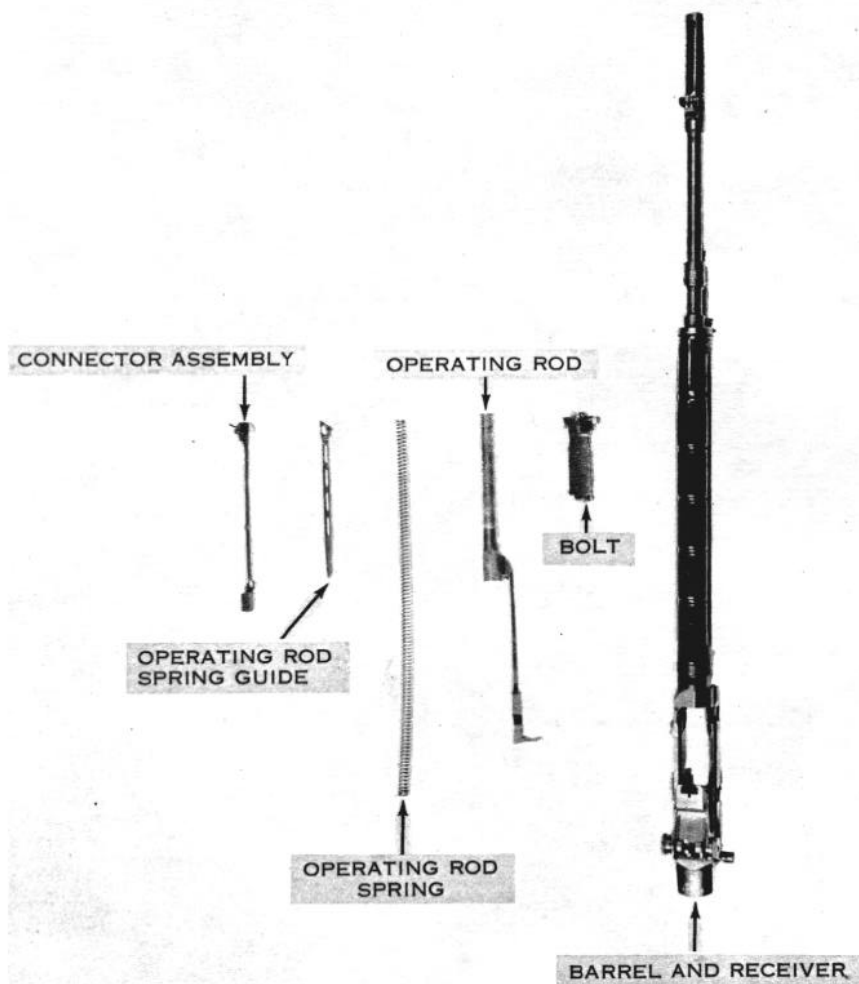

Figure 15. Parts of the barrel and receiver group in the order of disassembly.
*e. Rifle Field Stripped.* The parts of the barrel and receiver group in their order of disassembly are shown in figure 15.